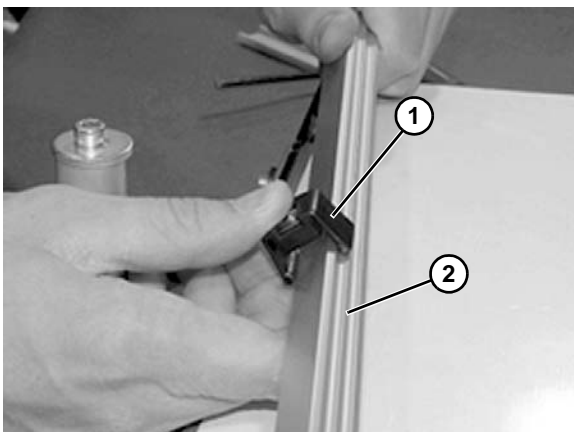

Figure 25
4. Snap clip (**Figure 25, item 1**) onto guide rail (**Figure 25, item 2**).